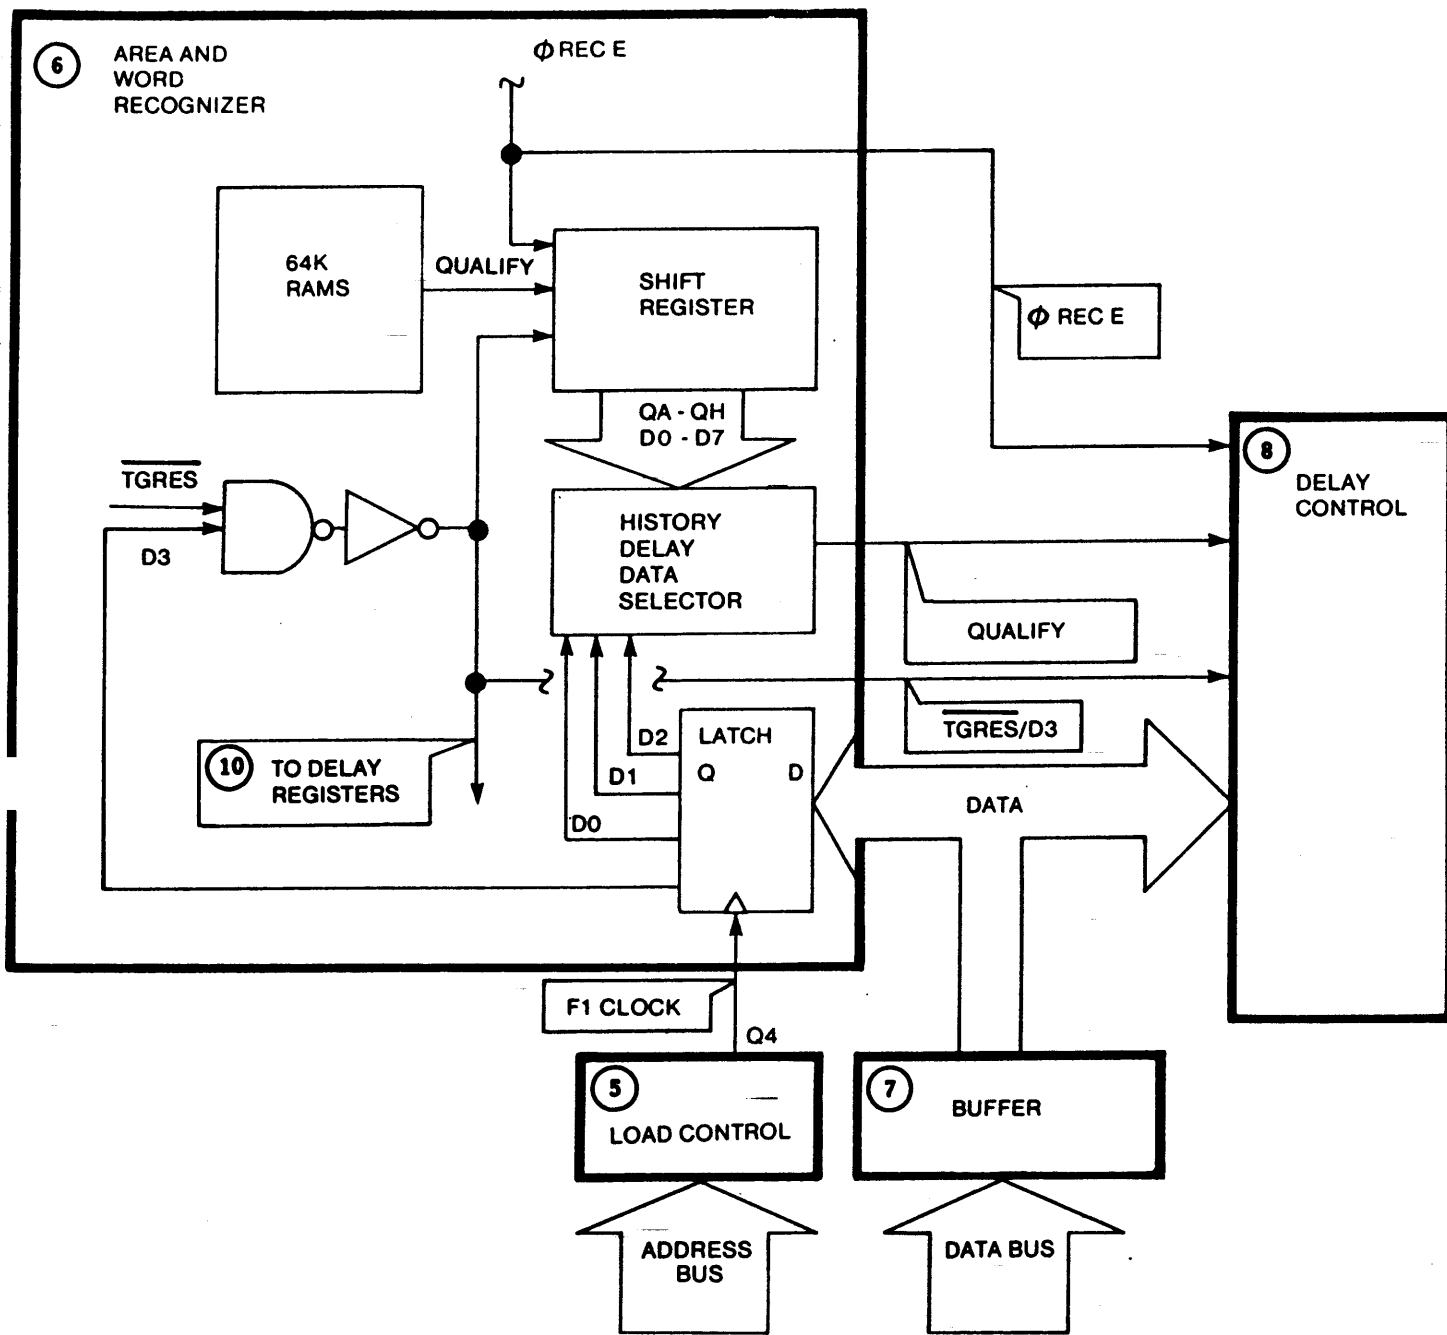

Figure 3-6. History Delay Operation
Figure 3-6 shows how the "History" Delay operates. This function is analogous to the analyzer being told when to shut the "Memory Lid" and how many samples to get from the "Trash Can" in Figure 3-3. The same gated signal that enables the Delay Registers, ⑩, also enables the Shift Register in the Word And Area Recognizer circuit, ⑥. A 3-bit signal from the Data Bus Latch (D0, D1, D2) selects the pre-trace delay in the History Delay Data Selector. As the QUALIFY signal leaves the 64K RAMs, it is passed to the Delay Control, ⑧, through the Shift Register and History Delay Data Selector. The number of History samples programmed is derived from the Load Control, ⑤, which provides a clock signal for the F1 Latch.